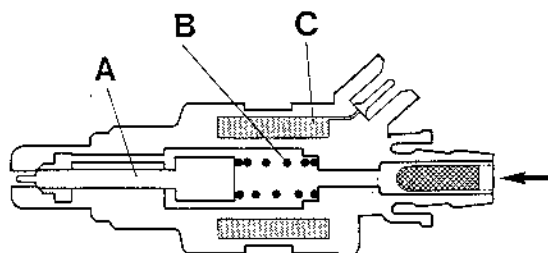

Fig. 6.
Each injector contains a needle valve (A) as seen in fig. 6, which is held closed in the rest position by a coil spring (B). When the electrical solenoid (C) is energised, it lifts the needle valve to allow the fuel to pass; and when the solenoid is de-energised, the spring snaps the needle valve closed to cut off the fuel flow. The tip of the needle is ground to a pintle shape to ensure efficient atomisation of the fuel spray into the inlet manifold.